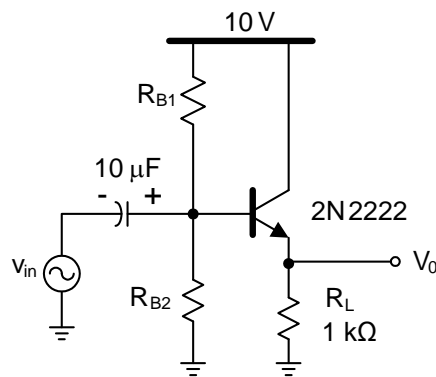

Fig. 4. Common-collector configuration
9. Find the magnitude of the small signal voltage gain for the circuit shown in Fig. 4 so that $I_c = 1$ mA. Select the resistors lumped to the base such that the collector current is 1 mA and $R_{B1} || R_{B2} > 50$ k Ω . First, check the operating point of your design and verify that the voltage gain is approximately given by $g_m (R_L || 1/g_m) = R_L / (r_e + R_L)$. Compute the values for the input impedance at the base and the output impedance.
10. Construct the circuit in Fig. 4 in PSpice and compare the simulated results (input impedance, output impedance and voltage gain) with calculations. Explain any differences. Also, obtain the frequency response of Fig. 4 and find the low frequency and high frequency poles.
8. Construct the circuit shown in Fig. 4; use the resistor values computed in the pre lab and be sure you verify these values using PSpice simulations.